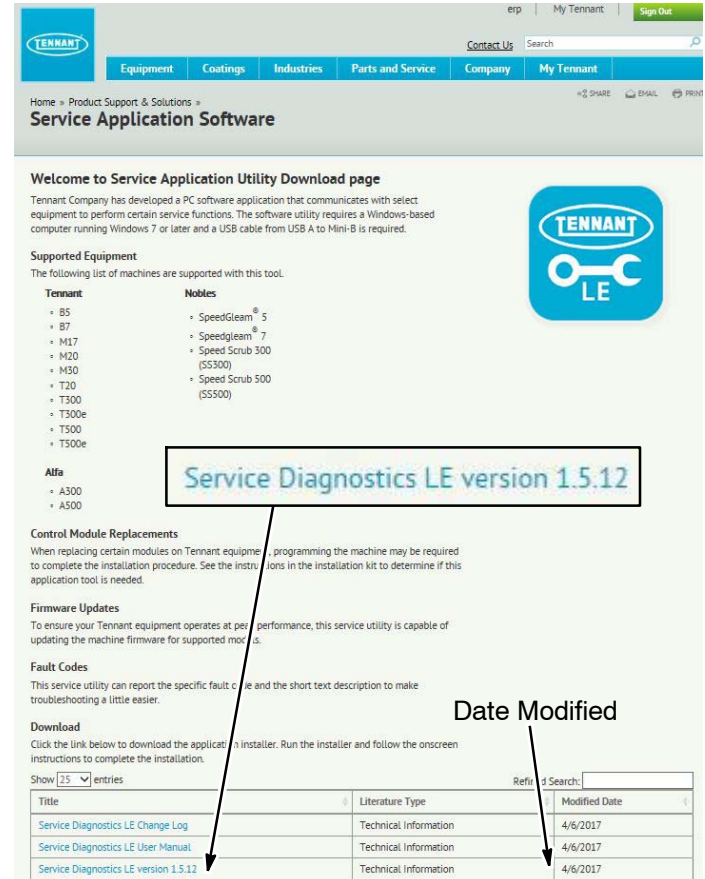

Fig. 19
5. Within the Service Application Software page, click on the link titled “**Service Diagnostics LE version....**” to download the application installer then click the Save button (Figure 19).